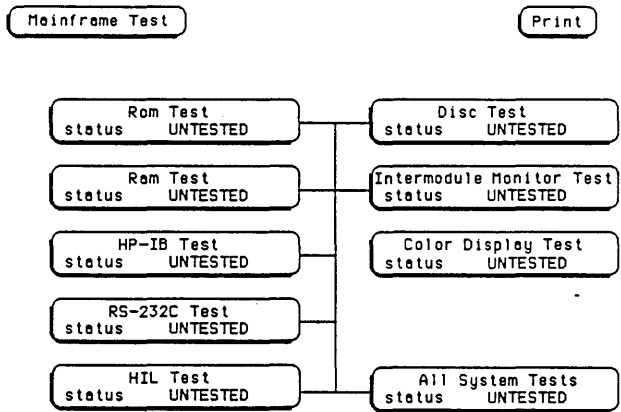

Figure 6-10. Mainframe Test Menu
- a. Display the Mainframe Test menu (see figure 6-10).